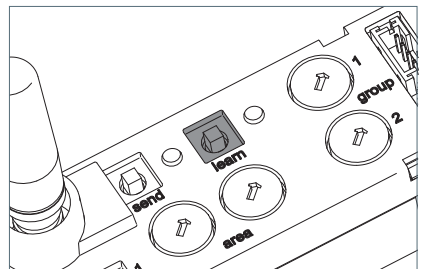

Fig. 20: "learn" key
- ▶ Press the "learn" key and keep it depressed for 10 to 15 seconds until the "learn" LED starts flashing slowly, see Fig. 20.